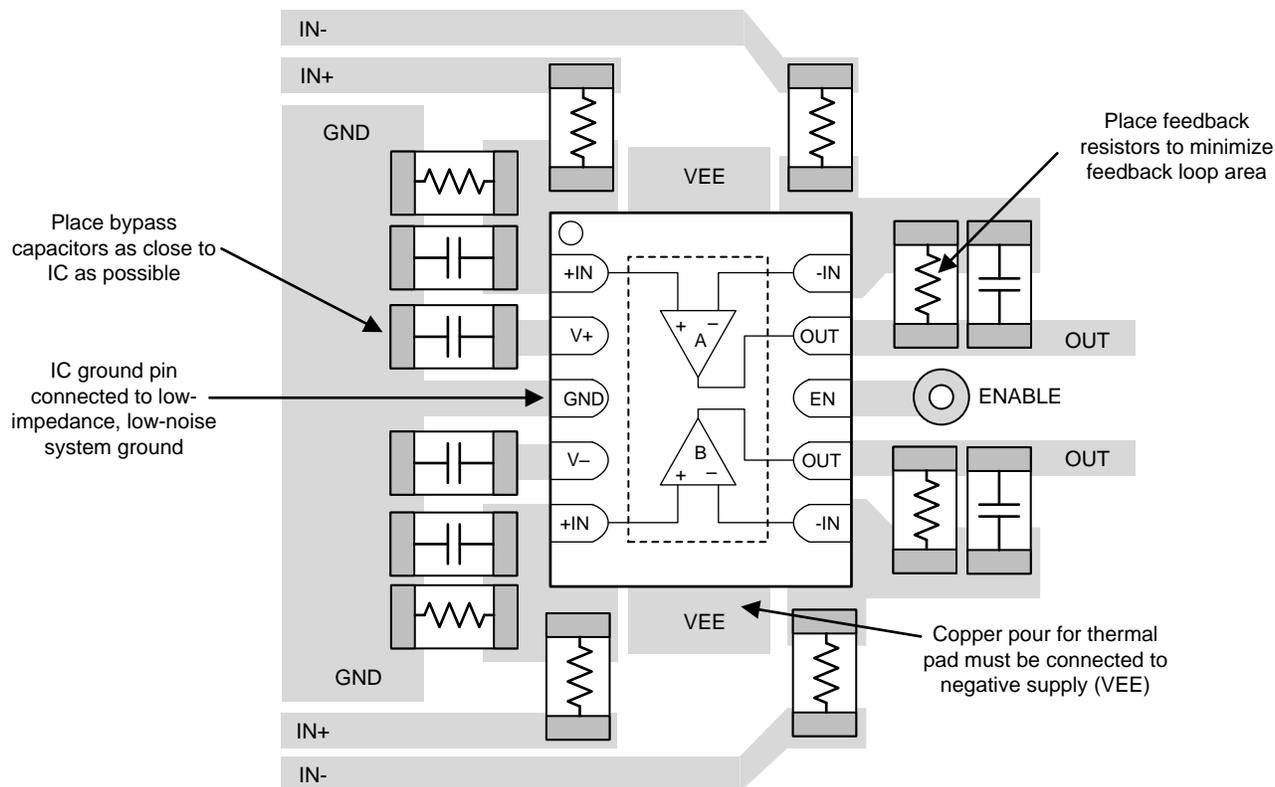

图 60. Operational Amplifier Board Layout for a Difference Amplifier Configuration
- Place the external components as close to the device as possible. As shown in Figure 60, keep feedback resistors close to the inverting input to minimize parasitic capacitance and the feedback loop area.